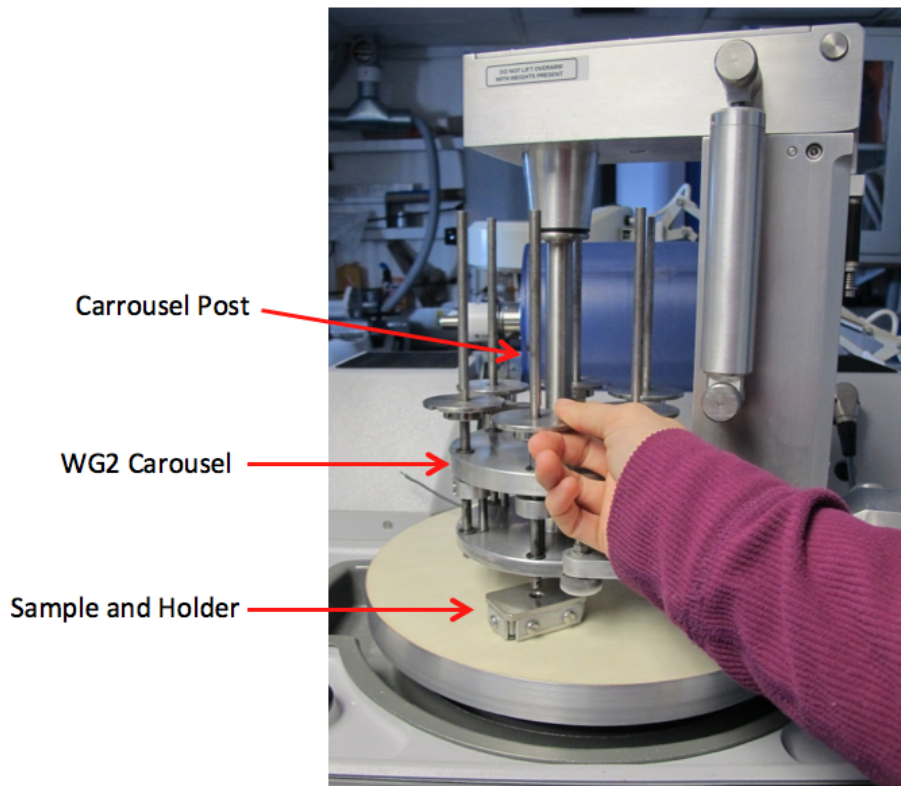

Figure 11
3. Place sample face down on the polishing pad under a carousel post (Fig. 11).
4. Lower the post down by rotating it counter clockwise and gently setting it down in the middle hole of the slide holder (Fig. 11).